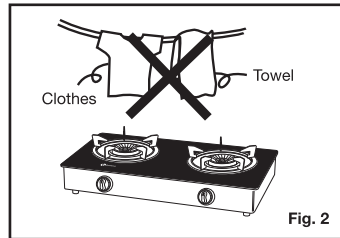

Fig. 2
- Use only for cooking. Do not use dry towels, clothes, etc... (Fig. 2)